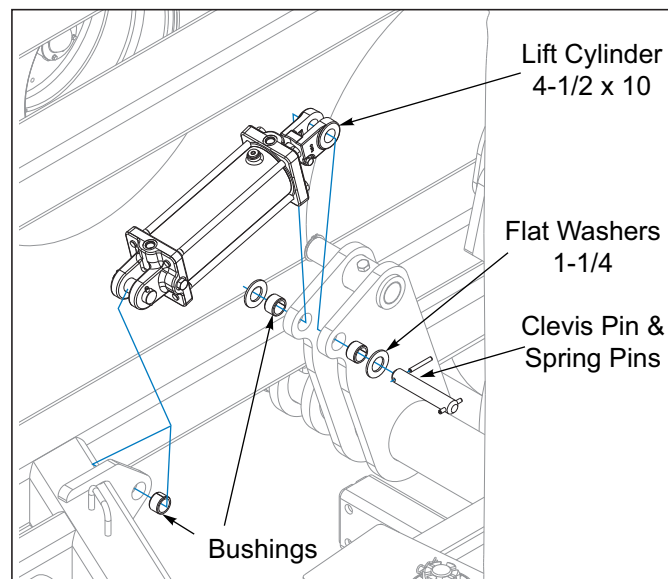

Figure 5-5: Lift Cylinder Pin and Bushings
*The hard steel bushings and pins in the rod end of the lift cylinders need checked for wear and replaced if needed **See Figure 5-5**.*